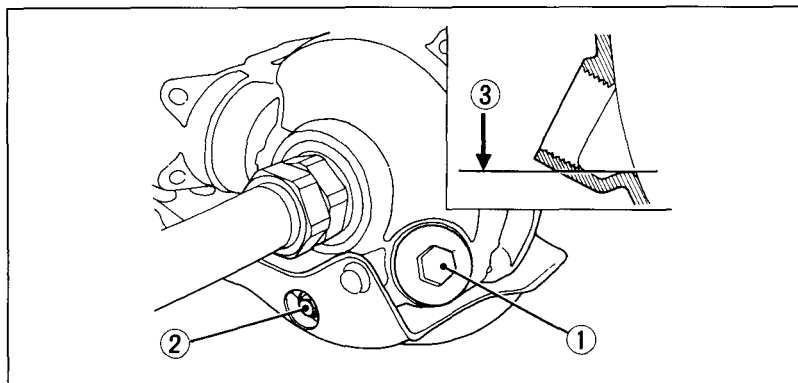

Fig. 4-14
1. To drain the oil, first place an oil drain pan under the oil drain plug (Fig. 4-14).
2. Remove the oil filler cap (1) and the drain plug (2).
4. Fill the final drive with approximately 3.0 US oz (90 cc) of the recommended oil. Make sure the oil fills up to the lower edge of the filler hole (3).